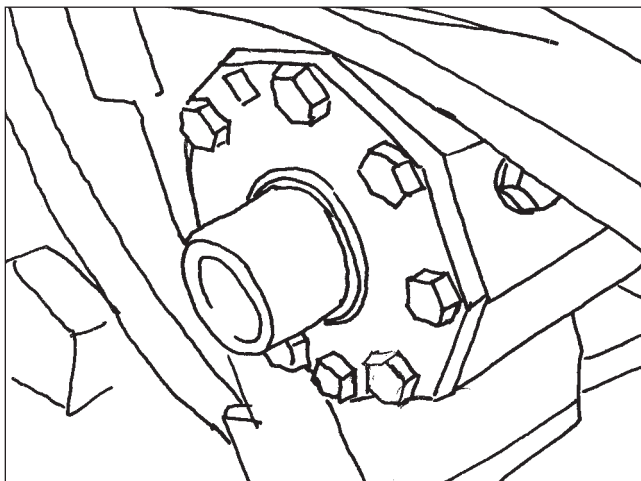

Figure 30
14. Pack the dirt excluder with grease and install it on the sector shaft if equipped. The lip of the seal must face outward (Figure 30).